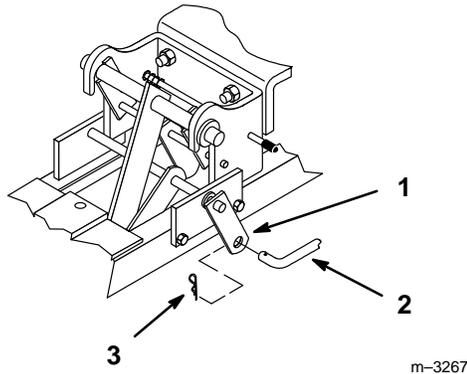

Figure 10
- Place lift rod into lift arm and secure with large hairpin cotter (Fig. 10).